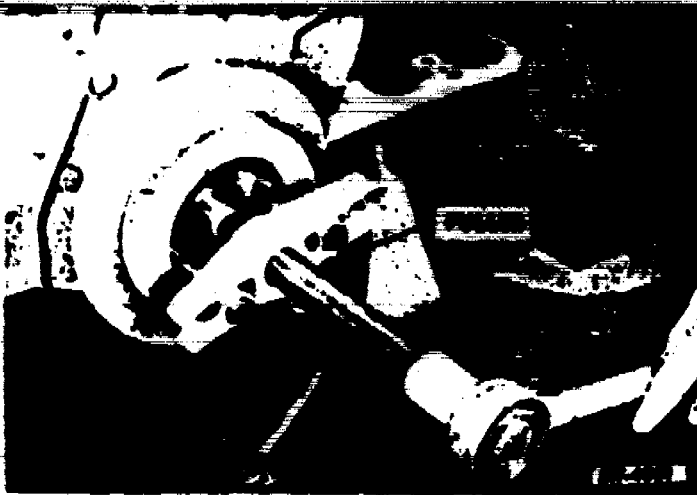

Fig. 15 - Pulling Crankshaft Pulley Using SE-1368 Puller
25. Remove crankshaft pulley nut and washer from end of crankshaft. Install puller (SE-1368) and remove pulley from crankshaft. See Fig. 15.